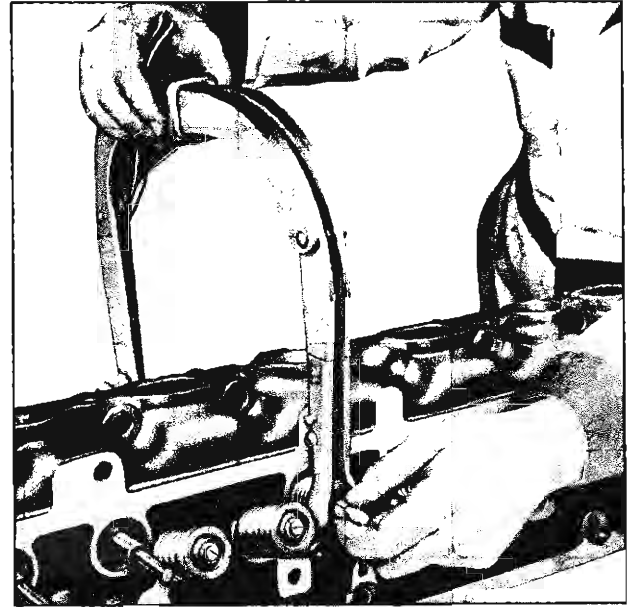

Fig. 8—Using Valve Spring Compressing Tool J-8062
15. Using Tool J-8062, compress the valve springs and remove valve keys, spring caps, oil seals and springs (fig. 8). Remove exhaust valve rotators from engines so equipped.